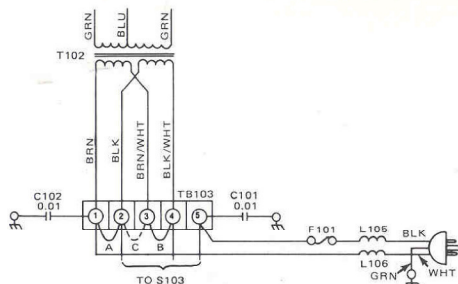

Figure 4. Converting to 240V, 50/60 Hz Power
2. Locate terminal board TB103 on the rear panel of the chassis, behind transformer T102 (see Figure 4).
3. Remove strap 'A' connecting terminals 1 and 2, and remove strap 'B' connecting terminals 3 and 4; then solder strap 'C' to terminals 2 and 3 as indicated in Figure 4.